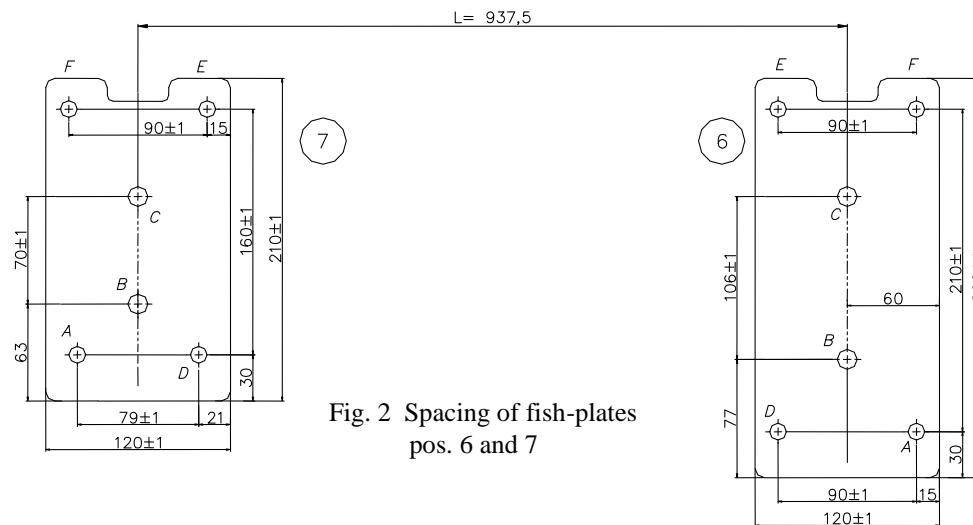

Fig. 2 Spacing of fish-plates pos. 6 and 7
3. Inside trunk, on the left and right side put fish-plates 6 and 7 (see figure 2). Next fix it through hole pos. A using bolts M8x30mm (pos. 14) in points originally threaded (remove plastic plugs).
4. Arrange fish-plates in accordance to dimensions from figure 2. Next mark points of rest holes. Then drill marked points straight through: bit $\varnothing 12,5\text{mm}$ holes pos. B and C, bit $\varnothing 8,5\text{mm}$ holes pos. D, E and F.
5. Disassemble both fish-plates. Made holes pos. B and C enlarge from trunk side using bit $\varnothing 25,5\text{mm}$; to enlarged holes put distance sleeves L=62mm (pos. 8).
6. Reassemble fish-plates again and in holes pos. B and C put bolts M12x100mm (pos. 10) and in rest of holes put bolts M8x35mm (pos. 14). Bolts M8 fix to the floor using big washers $\varnothing 25 \times \varnothing 9 \times 2\text{mm}$ (pos. 17) and spring washers.
7. Underneath the car put side brackets (pos. 4 and 5) on bolts M12 protruding from the trunk and fix it loosely.
9. Fix handle of the muffler through hole pos. H using bolt M8x60mm (pos. 13), use distance sleeve L=30mm (pos. 9).
10. Between assembled brackets (pos. 4 and 5) put main bar of the towing hitch (pos. 1) and fix it using bolts M12x35mm (pos. 12).